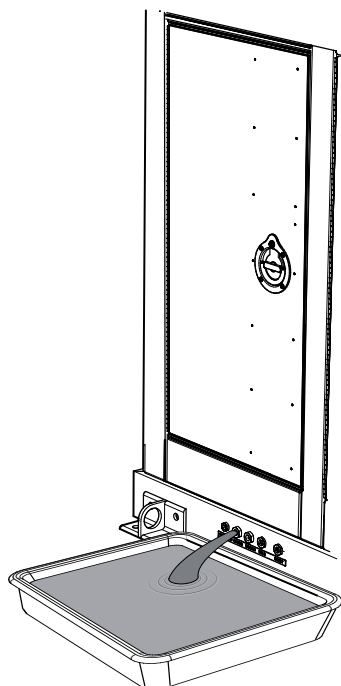

Figure 50. Draining Engine Oil
3. Next, remove the coolant drain plug located at the base of the skid as shown in Figure 50 and allow the oil to drain into a suitable container.